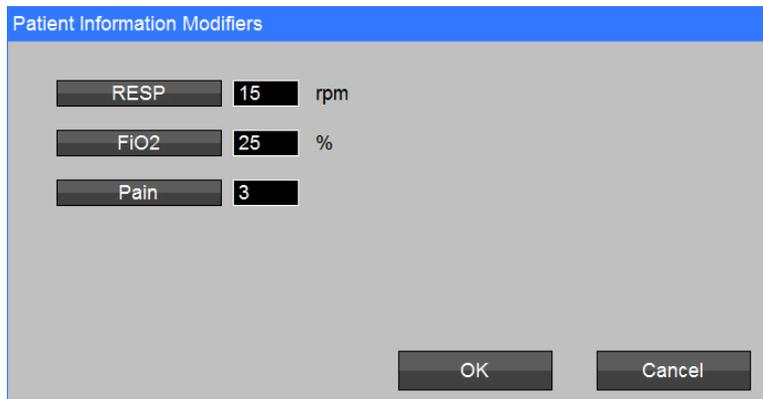

Figure 43: Patient Information Modifiers Screen
- a) RESP (Respiration Rate) - Press the RESP line to alter the RESP value. The valid range for RESP 1 to 150 rpm (refer to Figure 43).
- b) FiCO2 - Press the FiCO2 line to alter the FiCO2 value. The valid FiCO2 range is 21 to 100 % (refer to Figure 43).
- c) Pain - Press the Pain Line to alter the Pain value. The valid Pain range is 0 to 10 (refer to Figure 43).